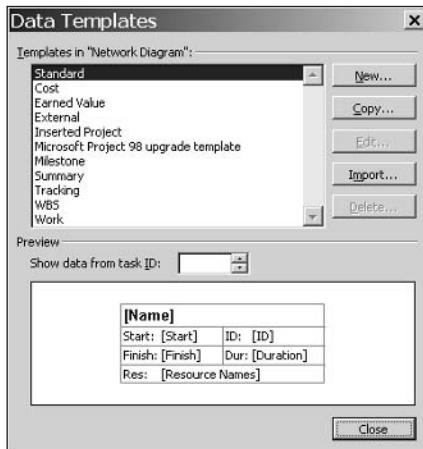

Figure 8-20: Select a template to modify or copy, or create a new template.
2. Click the More Templates button. Project displays the Data Templates dialog box, as shown in Figure 8-20.
As you can see in Figure 8-20, you cannot edit the Standard template—the Edit button is not available. To make changes based on the Standard template, you must copy it, as I did in Step 3.